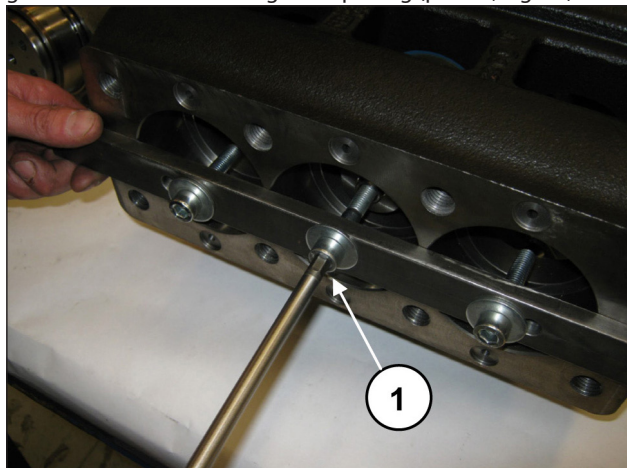
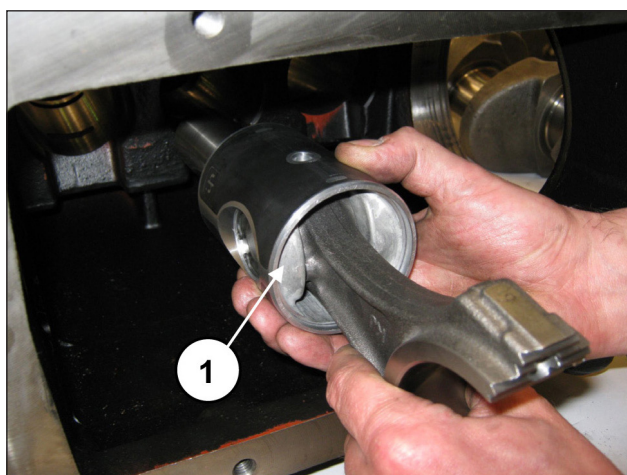
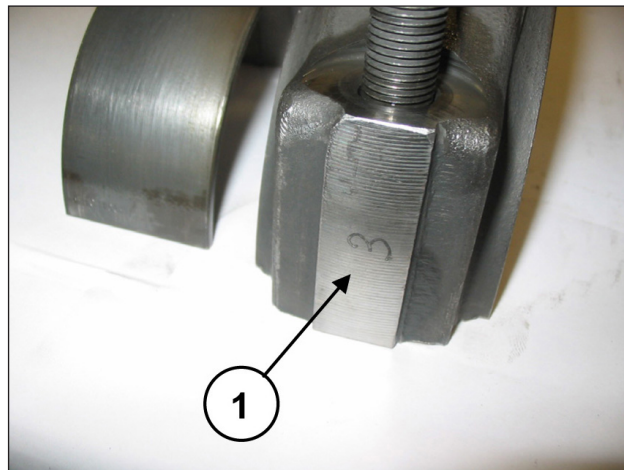

Fig. 32
Fig. 33
Fig. 42
Unscrew the screws with tool code 27566200 to unlock the conrods (pos. ①, Fig. 32) and then extract the conrod-piston guide units from the casing rear opening (pos. ①, Fig. 33).
Couple the half-conrods to the previously disassembled caps, referring to the numbering (pos. ①, Fig. 42).
Separate the caps from the half-conrods. Proper coupling can be verified by the numbering on the side (pos. ①, Fig. 42). After having checked casing cleaning, proceed with assembly of the half conrod-piston guide unit inside casing rods (pos. ①, Fig. 33).
Block the three units with the use of special tool code 27566200 (pos. ①, Fig. 32).
Remove the tool for blocking the conrods code 27566200 (pos. ①, Fig. 32).